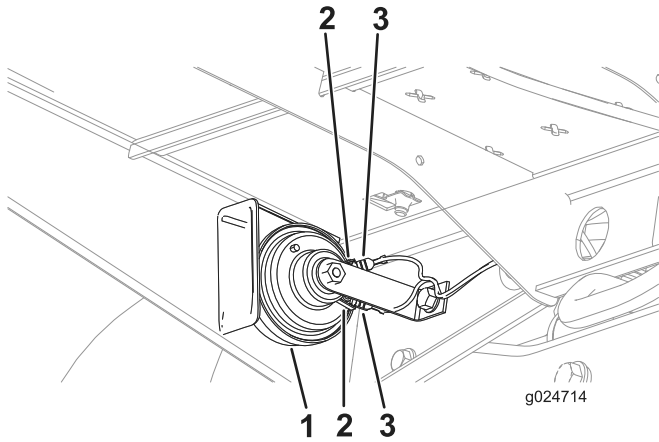

Figure 10
- Connect the wiring-harness leg with the 2 terminals to the 2 terminals on the horn (Figure 10).